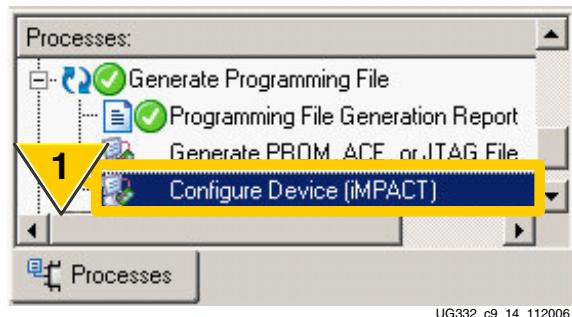

Figure 9-7: Double-click Configure Device (iMPACT)
1. From within the ISE Project Navigator, double-click **Configure Device (iMPACT)** from the Processes pane, as shown in Figure 9-7.